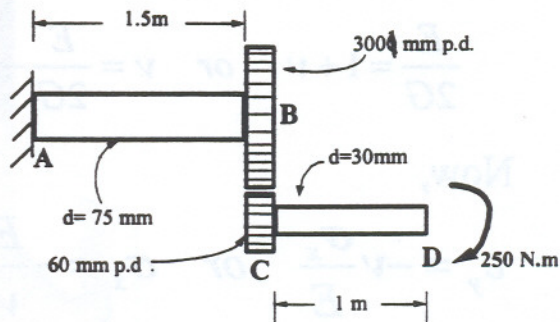

Fig. 2
- 15 2. Consider two solid circular shafts connected by 60 mm and 300 mm pitch diameter gears as in Fig. 2. The shafts are assumed to be supported by bearings in such a manner that they undergo no bending. Determine (a) the angular rotation of D , the right end of shaft CD , with respect to A , the left end of the shaft AB , caused by the torque of 250 N.m applied at D , and (b) shear stress in shaft AB . The shaft AB is steel for which $G=85\text{ GPa}$ and the shaft CD is brass for which $G=35\text{ GPa}$.